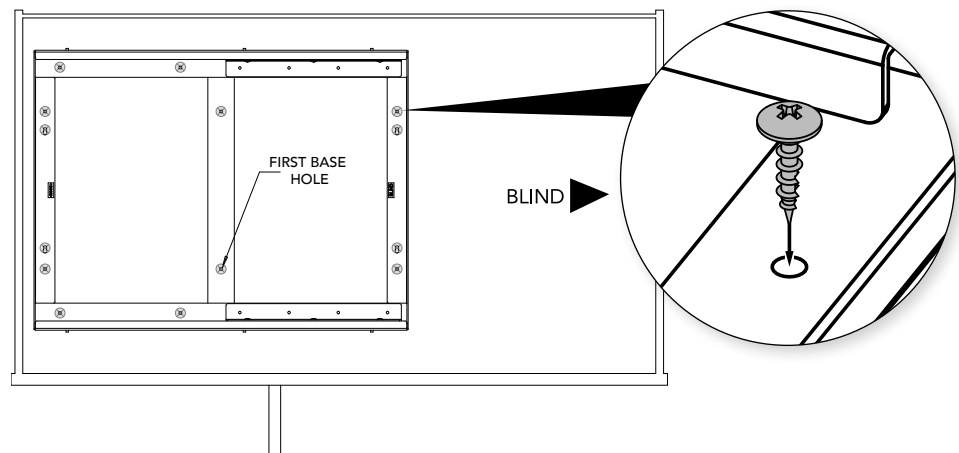

Fig. 3
Flip Frame (B) on its back and move pre-installed left wheel to the top position as shown for a Blind Right/ Left Door (See Fig. 3).